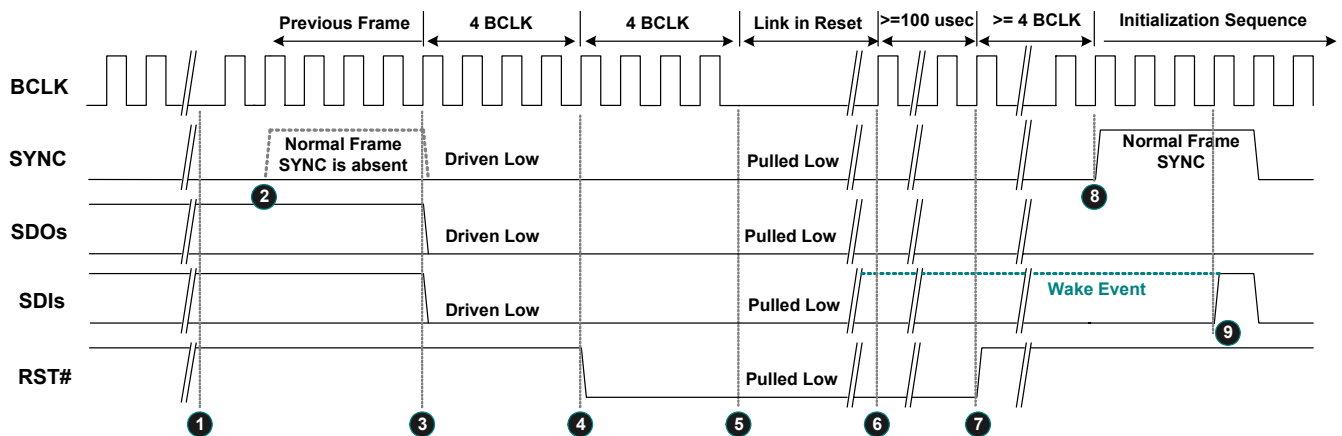

Figure 13. Link Reset Timing
3. Software initiates power management sequences. Figure 13, shows the 'Link Reset' timing including the 'Enter' sequence (❶~❺) and 'Exit' sequence (❻~❾)